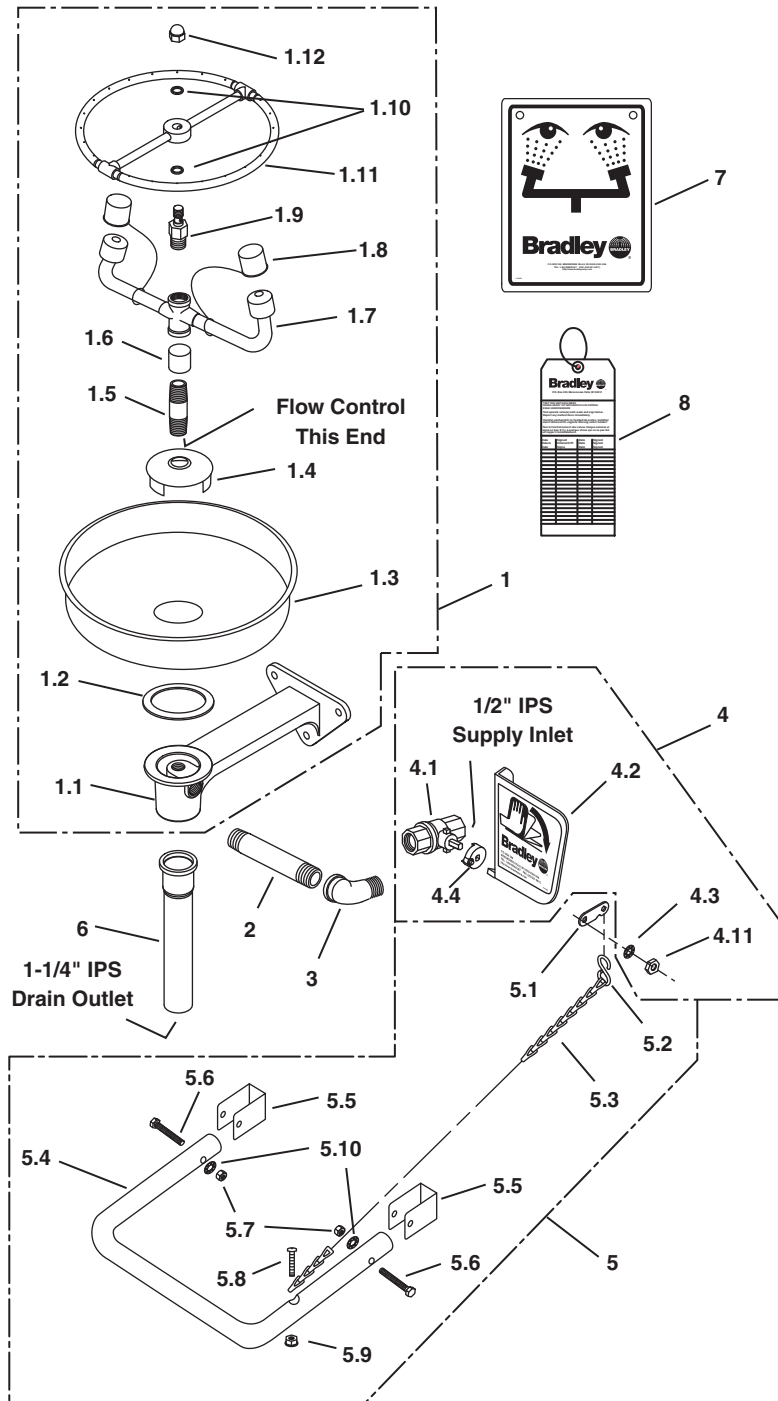

Figure 2
1. Assemble the components (see Figure 2, page 4).